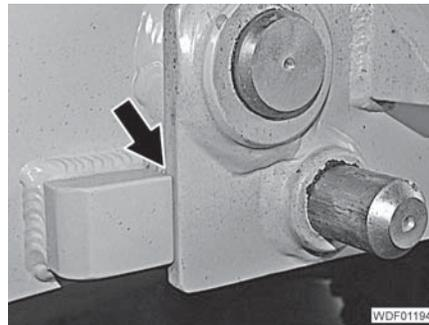

Fig. 42 Front stop
- Raise the load arm until the front stops (Fig. 42) just touch the tool attachment.